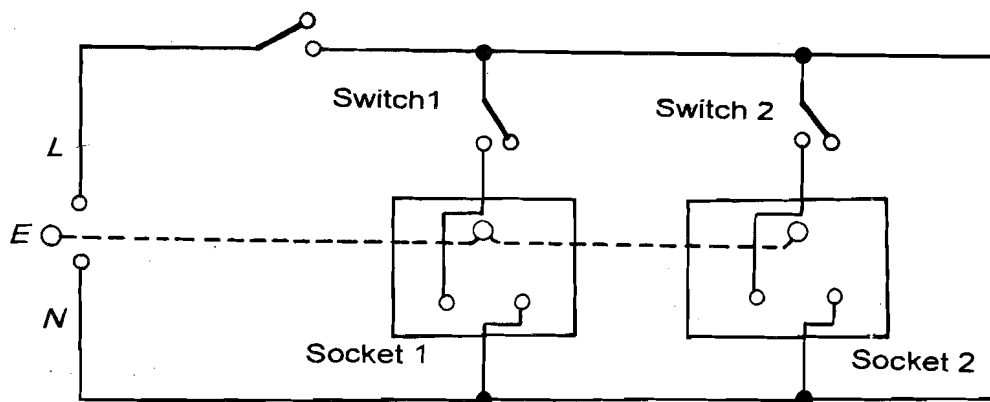
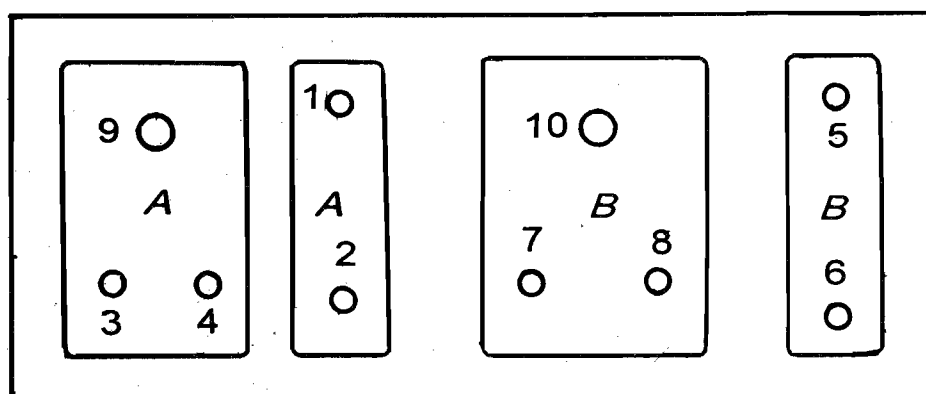

Fig.7.5: Circuit diagram of an extension board
Fig.7.7: Labelled circuit diagram of the extension board
Now suppose we wish to fabricate an extension board for plugging two instruments such as an oscilloscope and a signal generator. For such an extension board, the circuit diagram is shown in Fig.7.5. You will note that such an extension board has 2 two-in-one sockets with independent switches.
- Keep the labelled circuit diagram (Fig.7.7) of the extension board before you. This diagram is the labelled version of the circuit diagram of the extension board (Fig.7.5).
Note that all the terminals of sockets and switches in Fig.7.7 are numbered. You just have to join these numbered terminals as per the instructions given below using the single core wire of gauge 22. You will have to cut this wire into pieces of appropriate length: